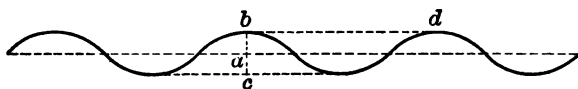

FIG. 116
**154. Definitions.** — In Fig. 116 let the dotted line represent a piece of cord, and the continuous line the same cord in a state of vibration.